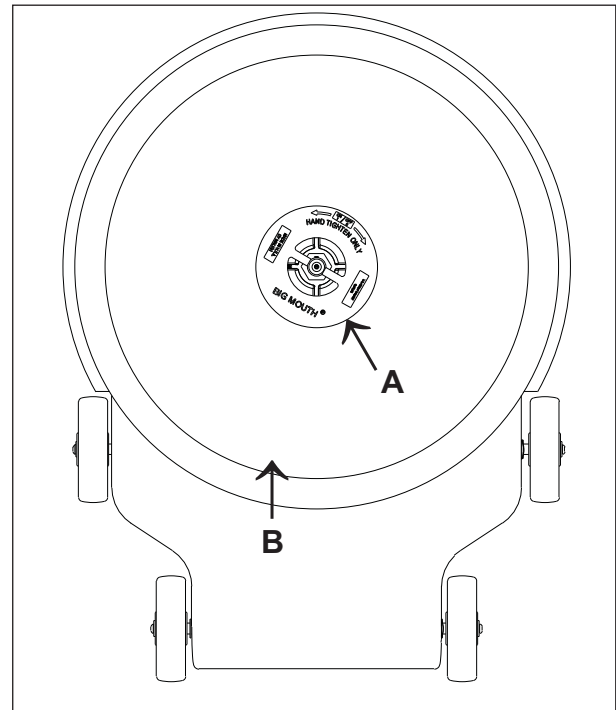

Figure 2
2. Position the handle on the floor, so that the machine is laying on its back. See Figure 2.
3. Unscrew the pad holder (A).
4. Carefully center the pad on the pad driver (B). Failure to center may cause vibration and operator fatigue.
5. Screw the pad holder (A) into position.